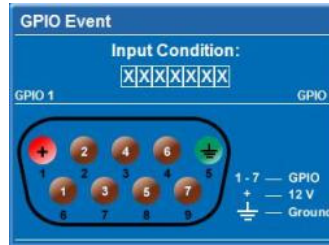

Figure B-13 GPIO Output Helper
- If a **GPIO** command string is needed, click the **GPIO Output Helper** button for instructions on how to create the command structure. **NOTES:** **1)** The **Output** field contains 7 blocks which refer to the 7 I/O pins on the GPIO connector. Pin 1 = +12V and Pin 5 = Ground. These are not included. **2)** Clicking a block toggles between H, L, and X. See *Figure B-13*. See *Appendix D: Serial Command Reference* for detailed information.